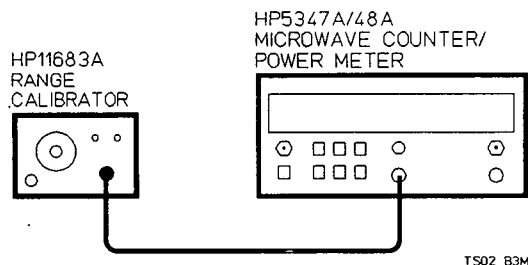

Figure 4-11. Power Meter Accuracy Test Setup
1. Connect the equipment as shown in Figure 4-11.